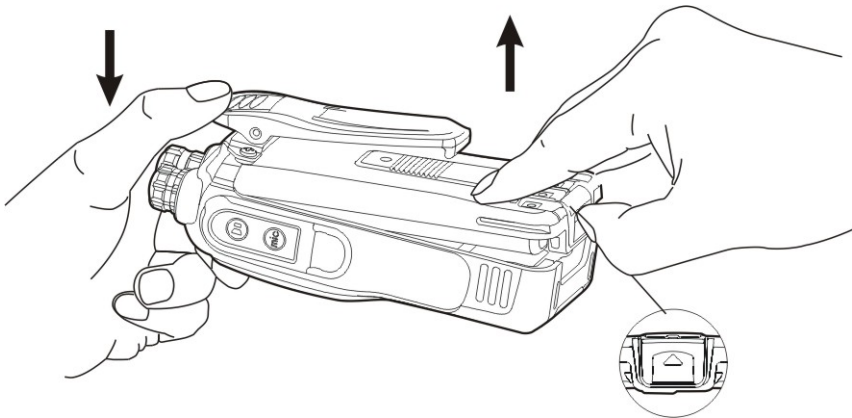

Figure 3
1. Please turn off the radio first. Then hold the top of radio main unit and press belt clip to make its tail turn up. Lift the battery latch in the direction of the arrow. See figure 3.